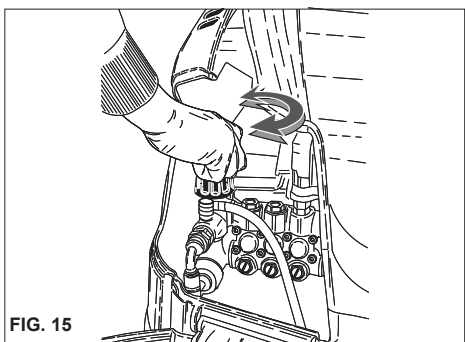

FIG. 15
This chapter concerns only those models provided with the “pressure regulating” device. The pressure regulator, fig. 15, allows the operator to adjust the working pressure. When knob C is turned in an anti-clockwise direction (B) (minimum), the working pressure is reduced.